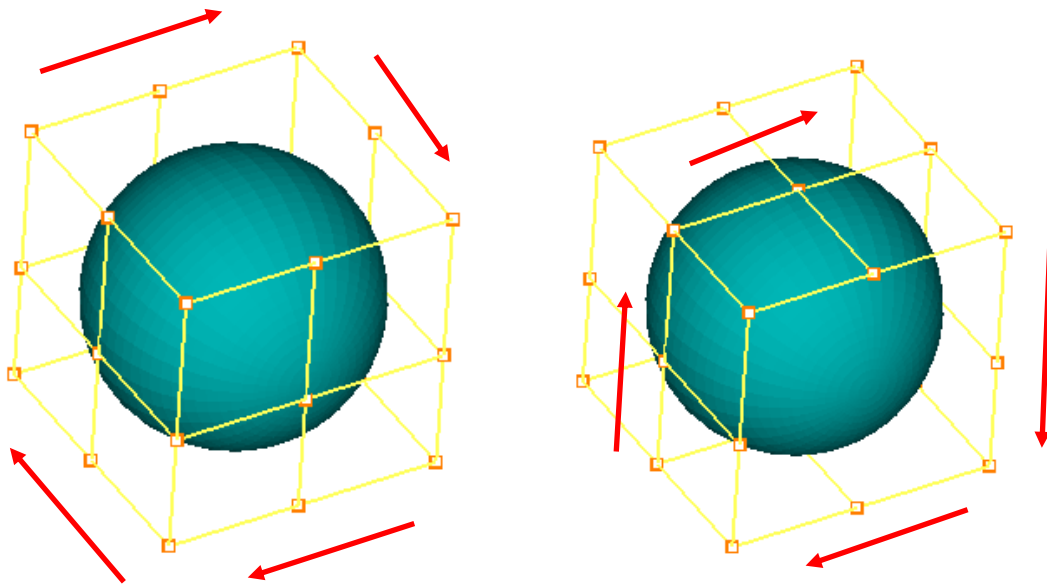

Figure 4.99: Topologies where nesting can be applied
4. Nesting can be performed along 2-D sheet only and it is applied in 1D as seen in figure 4.99.